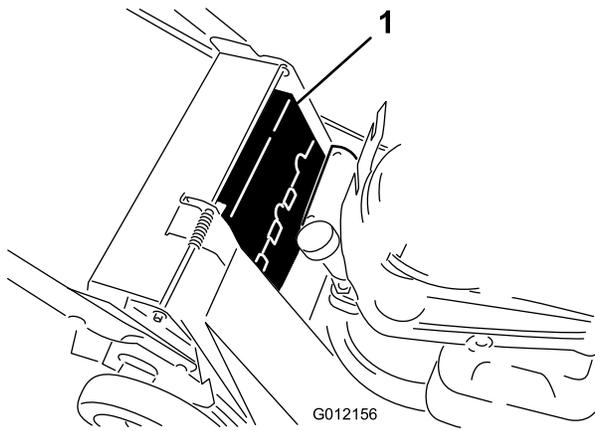

Figure 29
6. Remove the upper belt cover (Figure 29).